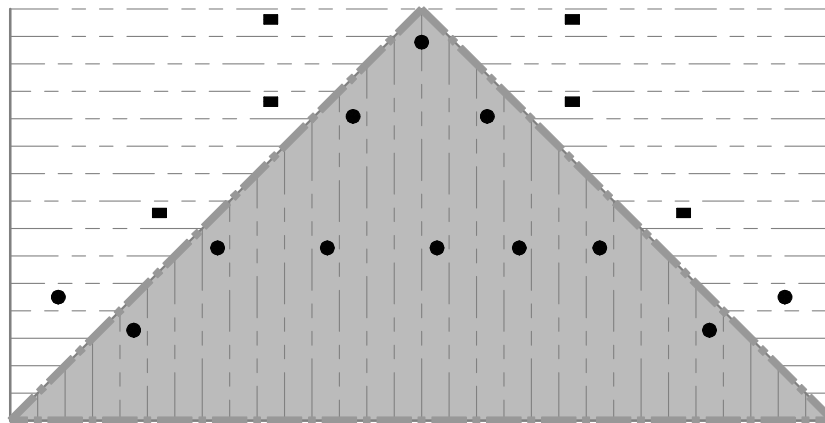

FIGURE 17: HYDRAULIC CALCULATIONS REQUIRED FOR RE @ HIP (FRAMING MEMBERS PARALLEL TO SLOPE)
- Calculate all sprinklers within the hip area shown shaded. See FIGURE 17.